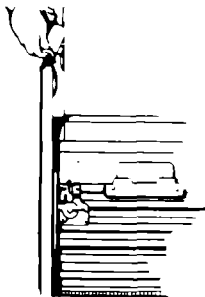
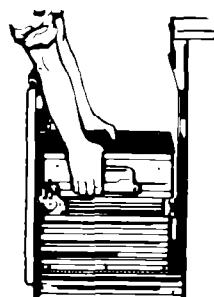

FIGURE 4
FIGURE 5
- a. Grip handle and raise front of drawer until it clears stops. See Figure 4.
- b. Grasp side ridges of the drawer and lift drawer out. See Figure 5.
2. To replace the drawer, grasp side ridges of the drawer (Figure 5). Place drawer onto tracks lifting the front to clear stops (Figure 4). Close drawer.